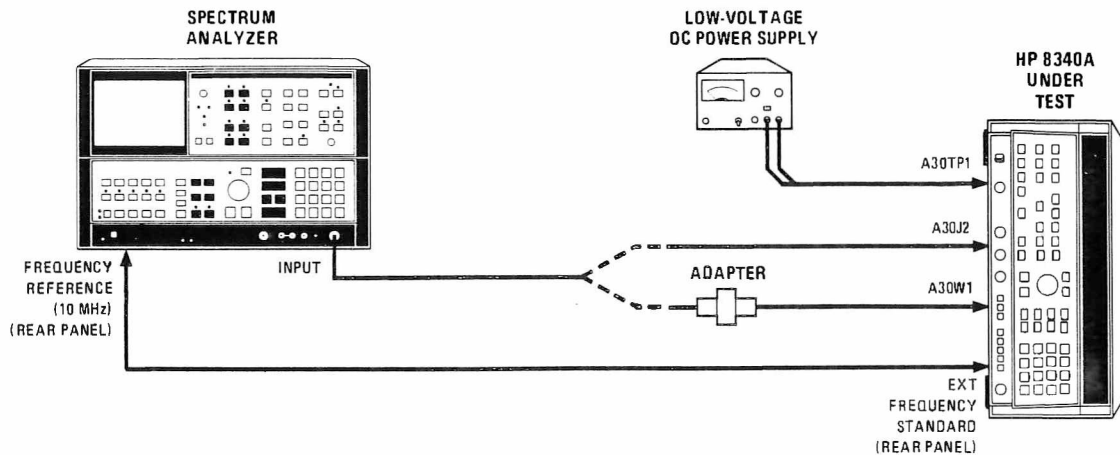

Figure 5-6. 100 MHz VCXO Adjustment Setup
1. Position HP 8340A in the Test Position as shown in Figure 5-6 with bottom cover removed. Connect equipment as shown in Figure 5-6. On the HP 8340A rear panel, disconnect BNC cable connected between INT and EXT Frequency Standard connectors, set INT/EXT switch to EXT, then connect cable from EXT connector to Spectrum Analyzer Frequency Reference (10 MHz) rear-panel connector. Allow instruments to warm up for one-half hour.